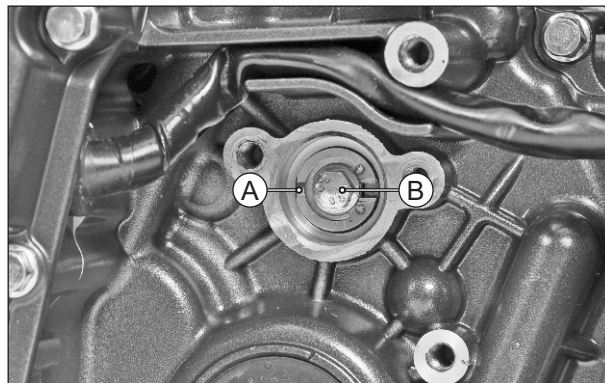

Fig. 3.108
- Remove the hexagonal bolt (M6x16 - 1 no.) (A) and take out contact complete gear shift switch (B). (Fig. 3.108)